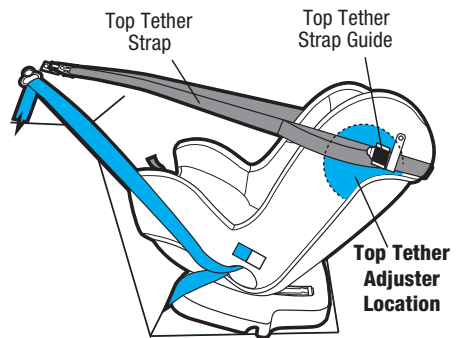

Figure 2
- Loosen upper anchorage strap (refer Figure 2).
- Always keep adjuster within this region (refer Figure 2).